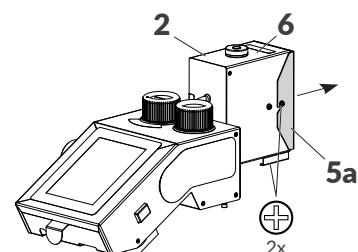

Fig. 14.
6. Use the cross head screwdriver to loosen two screws (see Fig. 14) that fasten sealing cover **5a**.